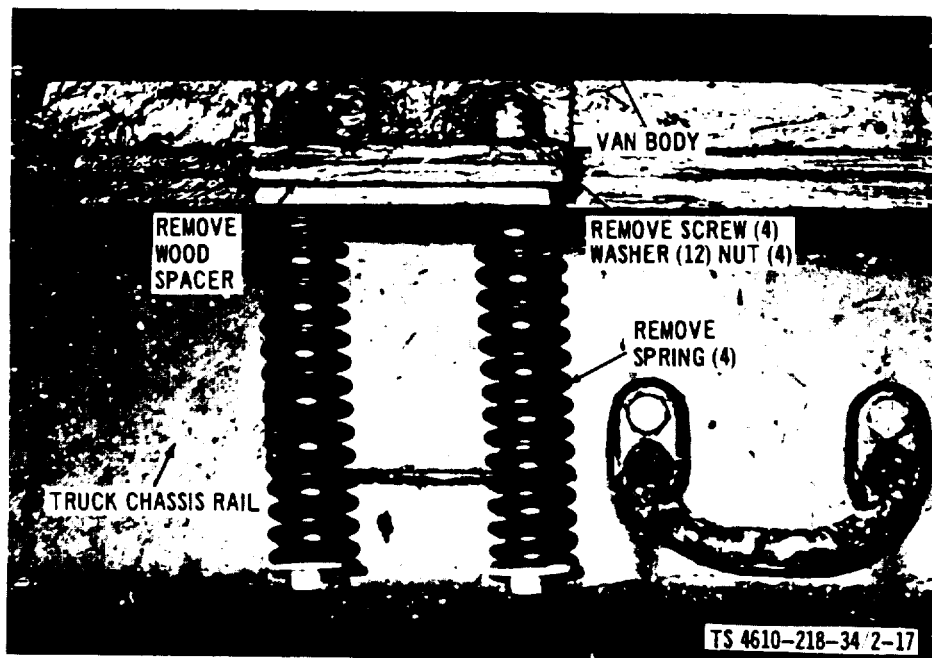

Figure 2-17. Van Body Mounting, Front, Removal and Installation
(2) Refer to figures 2-17, 2-16 and 2-15 and install all mounting hardware.
(3) Position and connect all electrical and fuel lines as required.